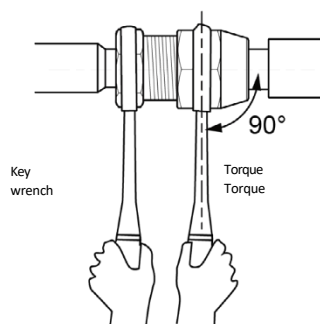

Fig. 17
- 3 Tighten the flared nut securely using a torque wrench until the wrench clicks (hold the wrench handle and position it at a right angle to the pipe, see Fig. 17).